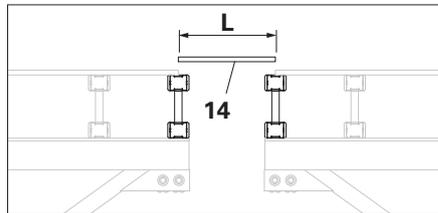

Fig. A4.04.1
For smaller compensations with plywood sheeting (14) which rests on both tables. (Fig. A4.04.1)